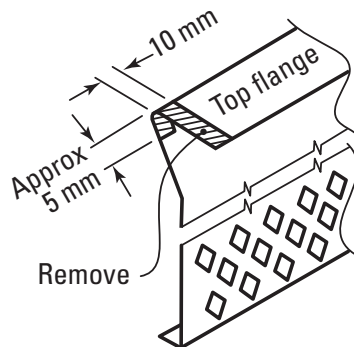

Figure 19.5
- 6) Notch the top leg of the lattice/slats on both ends. (Figure 19.5)